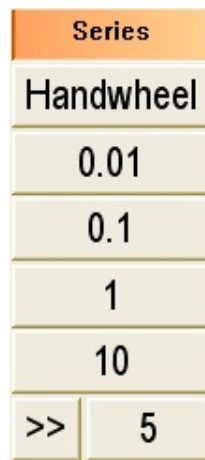

Fig. 6-3 Manual Moving Buttons
- ◆ [Series], [Handwheel], [0.01], [0.1], [1], [10], [>>], see Fig.6-3.